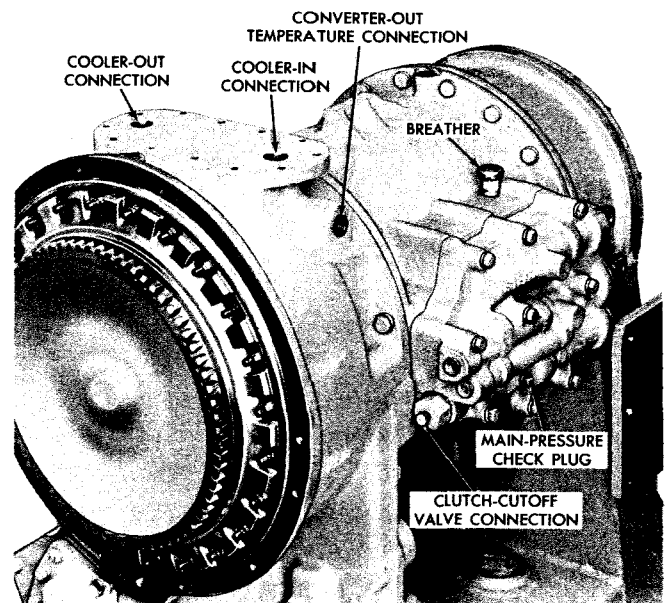

Fig. III-3. Model CRT 3531-1 or CRT 3630-1 transmission—partial left-front view
c. Checking Main Pressure. Main pressure can be checked by the gage on the instrument panel (if so equipped) or by connecting a gage to the 1/8-inch NPTF tapped opening on the outer side of the control valve body (fig. III-3). Main pressure at full-throttle stall should be approximately 150 to 160 psi on those transmissions equipped with main-pressure regulator valve assembly 6772429 (no ports in large diameter). On transmissions equipped with main-pressure regulator valve assembly 6771289 (ports in large diameter of valve), main pressure should be 140 to 150 psi.
d. Checking Converter-out Pressure. Converter-out pressure may be checked at the point provided for attaching the temperature gage sending unit (1/2 NPTF tapped opening on the upper-left side of the converter housing — fig. III-3). Maximum converter-out pressure at full-throttle stall is 65 psi, with transmission at normal (180-200° F) operating temperature.